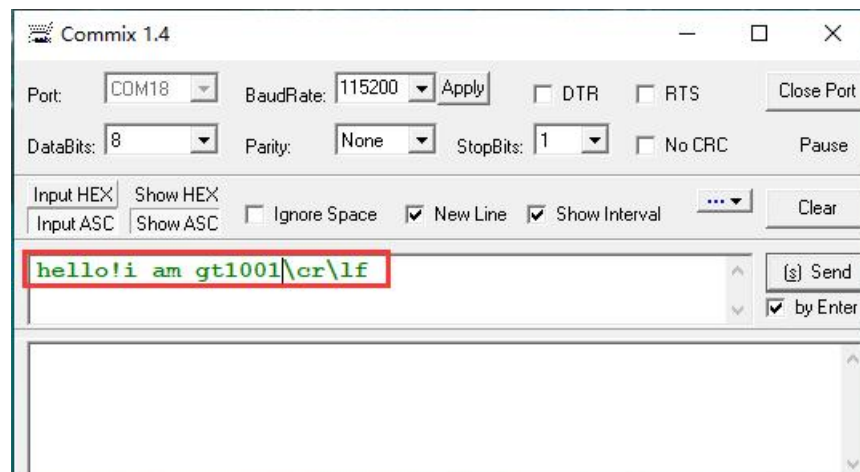

Figure 5-7 Serial port parameter setting interface
(5) Open the "Commix" serial port test tool, set the serial port parameters as shown in Figure 5-7, and then click "open port". Open the serial port.